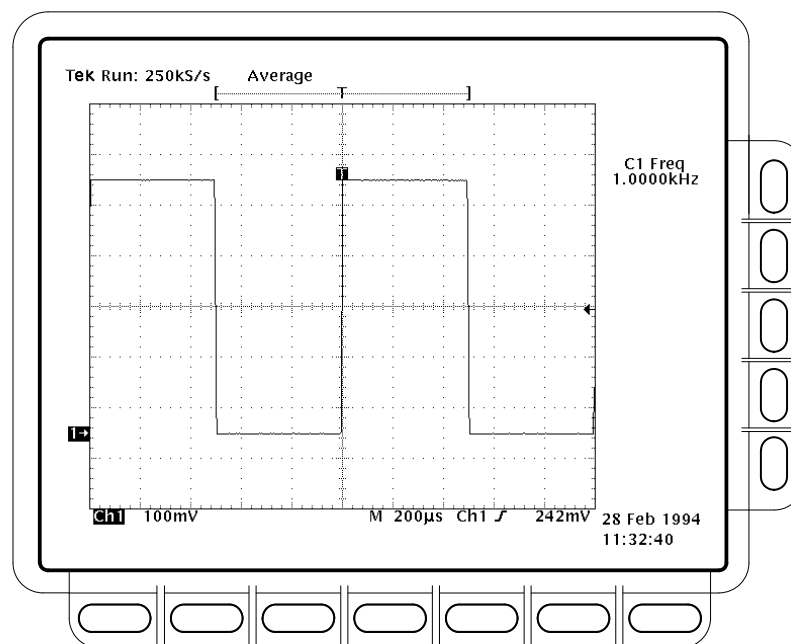

Figure 1–22: Measurement of Probe Compensator Frequency
- CHECK that the **CH 1 Freq** readout is within 950 Hz to 1.050 kHz, inclusive. See Figure 1–22.